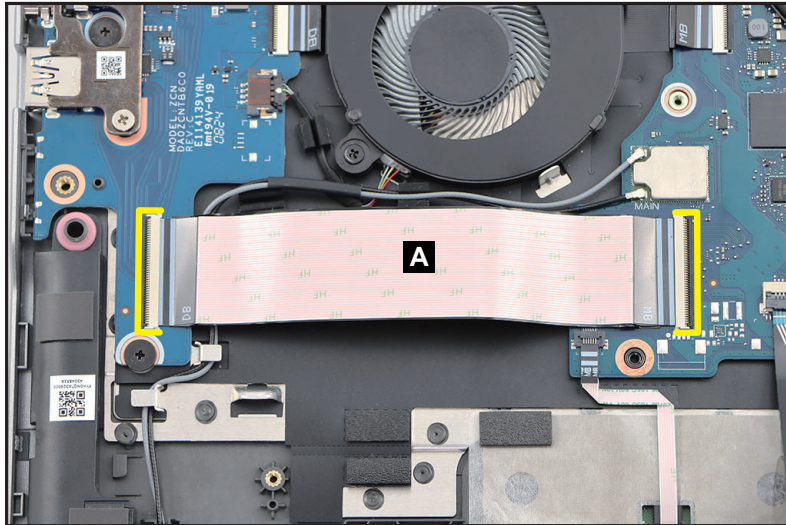

Figure 1-10. SSD Module Removal
2. Disconnect the USB FFC (high speed) (A) from the USB board and mainboard connectors. Then remove the USB FFC (Figure 1-10).